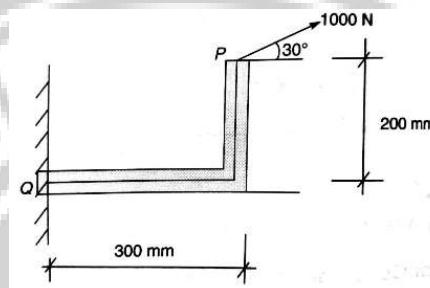

Fig. 1
| 2 | A force of 1000N acts on a bracket as shown in Fig 1. Determine the moment of the force about Q. | (5)   |